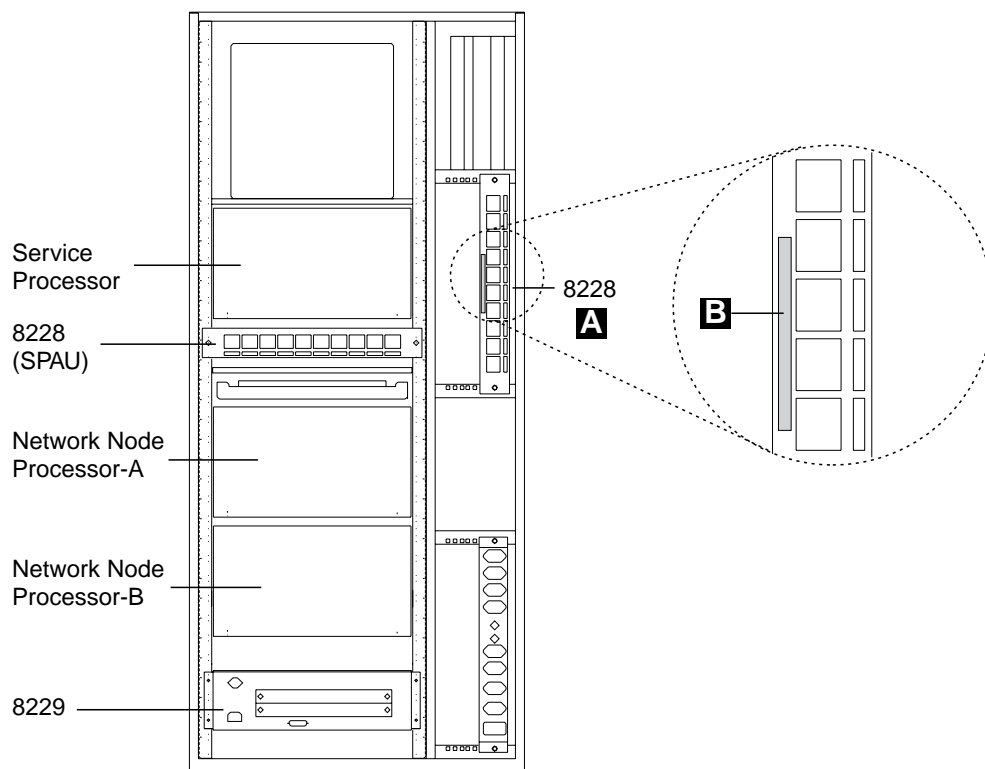

Figure 2-21. Installing One Ethernet Bridge in the Controller Expansion-A (Rear View)
- g. ____ Refer to Figure 2-21, and install vertically the 8228 **A** on the rear side of the controller expansion-A using two screws (PN 1621232) and two captive nuts (PN 58G5766). Using label **B** (PN 782964), identify the 8228 as Ethernet Bridge Access Unit-A